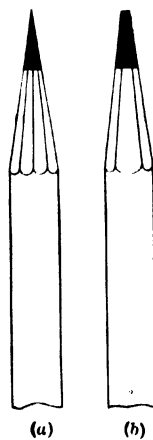

Fig. 1
**Pencil.**—The best kind of pencil to use is a fairly hard one (F. or H. B.). Neatness and accuracy depend on having well-sharpened pencils. *You should have two pencils*, one sharpened to a fine point, as in Fig. 1(a), and the other to a flat “chisel point,” as in Fig. 1(b); the former is used for marking points and the latter for drawing lines.